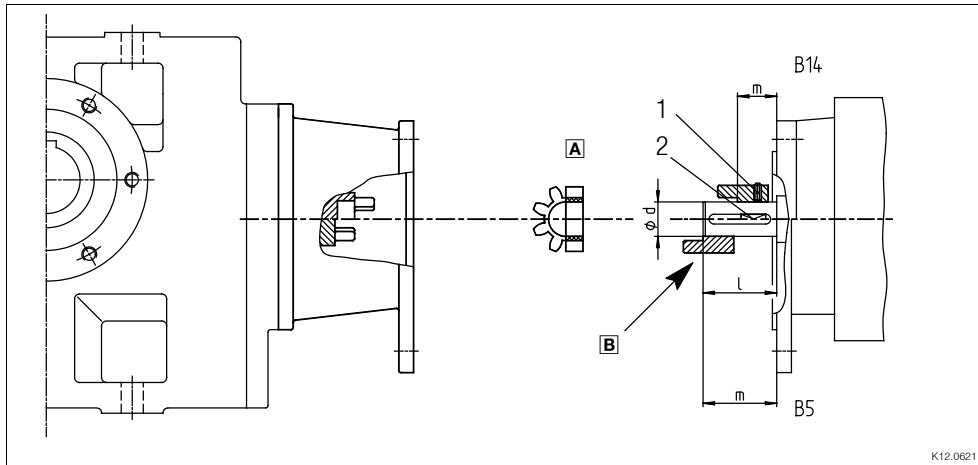

Fig. 3 Input side design N
1. Fit motor key (2).
2. Push the coupling hub over the motor shaft, mounting dimension m (see Fig. 3 and Tab. 3) must be observed.
3. Secure coupling hub against axial movement using the fixing screw or clamping screw (1).
2. Push the coupling hub over the motor shaft, mounting dimension "m" (see Fig. 3 and Tab. 3) must be observed.